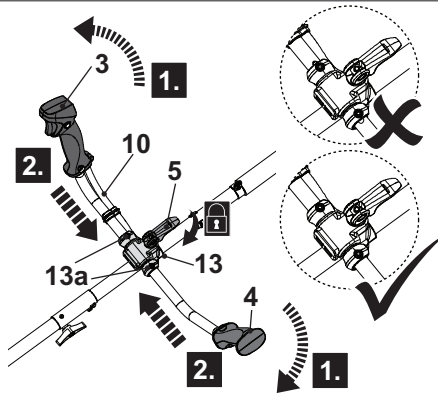

Fig. 6
1. Unfold the clamp lever (5) but don't remove it, then rotate two handle bars (3, 4) 90° from the storage positions to the working position (Fig. 6, step 1).
2. Pass the slot of the handle bars (3, 4) through the bolts (13a) of handle support (13) all the way until you hear a click and keep the handle bars (3, 4) in place (Fig. 6, step 2). Secure the connections by tightening the bolts (14a) clockwise using the supplied hex key (23).
3. Lock the handle bars (3, 4) by folding up the clamp lever (5). If clamp lever (5) cannot be folded, loosen it and fold again. If it is too loose, tighten it by swinging the clamp lever (5) in clockwise (Fig. 6, step 3).
4. Make sure the electric cord (10) run on the right-handle bar (3).